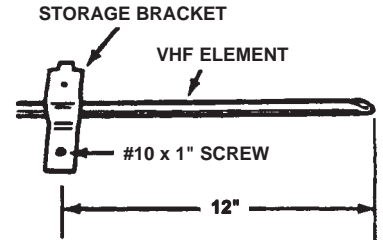

Figure 7
**STEP 14.** Place storage brackets approximately 12" from end of long VHF element and attach to vehicle with one (1) #10 x 1" sheet metal screw. See Figure 7.